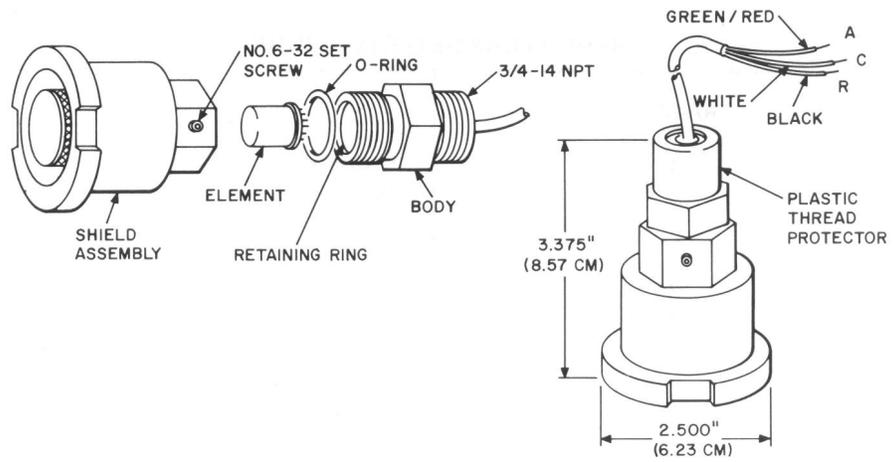

Fig. 22—Bacharach Combustible Gas Detector (Model 800-080.10) Exploded View
4.03 The Bacharach gas detector,* Fig. 22 and 23, model 800-080.10, is an explosion-proof unit capable of detecting combustible gas in the air by exposing the existing air-gas mixture to flameless catalytic burning on the surface of its sensing element. A Wheatstone bridge circuit is used to compare the electrical resistance of the active sensing element with that of a companion reference element at the same temperature. If a difference in electrical resistance between the active and reference elements exists, it produces a signal current in the detector bridge circuit. This signal is then fed to the control unit where it activates the indicating meter and the alarm circuitry.